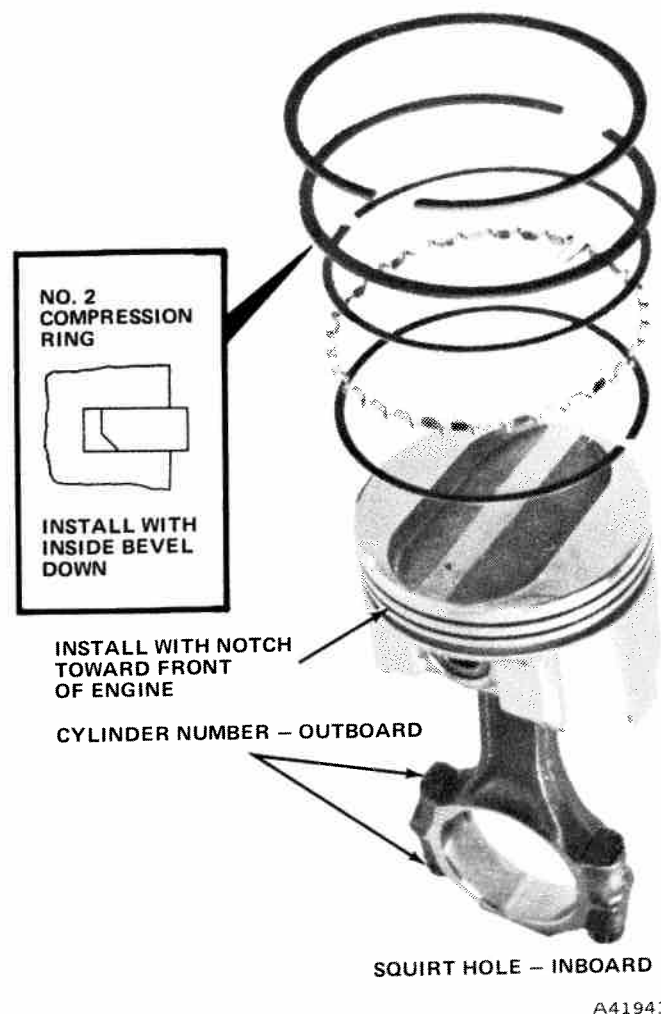

Fig. 1B-29 Piston Ring Sequence
- (1) Install upper main bearing inserts.
- (2) Install crankshaft.
- (3) Install main bearing cap and inserts.
- (4) Install new oil pickup tube and screen assembly.
- (5) Install camshaft.
- (6) After thoroughly cleaning cylinder bores, apply a light film of clean engine oil to bores with a clean lint-free cloth.
- (7) Prior to installing the connecting rod and piston assemblies into cylinder block, arrange piston ring gaps so that:
- (c) Oil control ring gaps are 90° between each ring gap (fig. 1B-29).